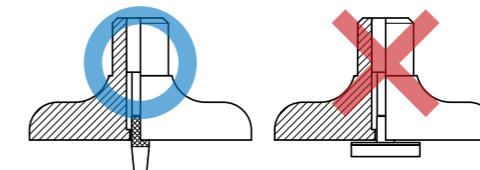

Fig. 2
5. Use a contact point with a diameter smaller than the diameter of the base hole. (Fig. 2)